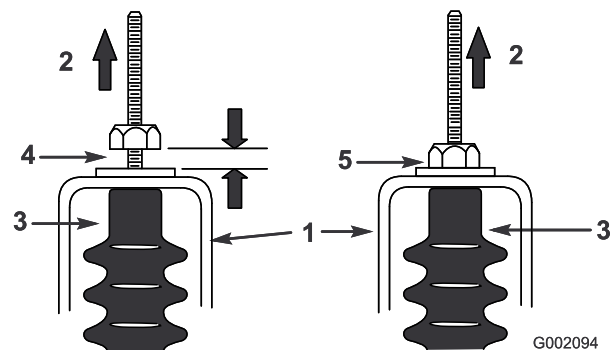

Figure 68
5. Pull up on each shift cable and ensure that there is a 0.76 to 1.52 mm (0.03 to 0.06 inch) between the nut/washer and the neutral bracket (Figure 68).